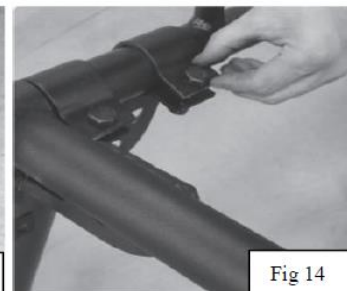

Fig 14
6. Install 2 #12 x 45mm bolts with flat washers, spring washers, and locknuts into the top clamp portion of the rear upright (Fig 14). Repeat for the other side. Do Not Tighten